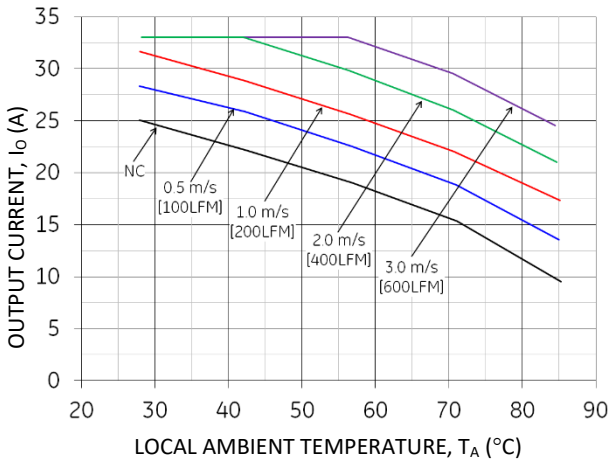

Figure 19. Output Current Derating for the Open Frame QBVW033A0B in the Transverse Orientation; Airflow Direction from Vin(-) to Vin(+); Vin = 48V.
Increased airflow over the module enhances the heat transfer via convection. The thermal derating of figure 19- 23 shows the maximum output current that can be delivered by each module in the indicated orientation without exceeding the maximum THx temperature versus local ambient temperature (TA) for several air flow conditions.
The use of Figure 19 is shown in the following example:
Given: Vin= 48V, Io = 20A, TA = 60 °C Determine required airflow velocity (Use Figure 19):